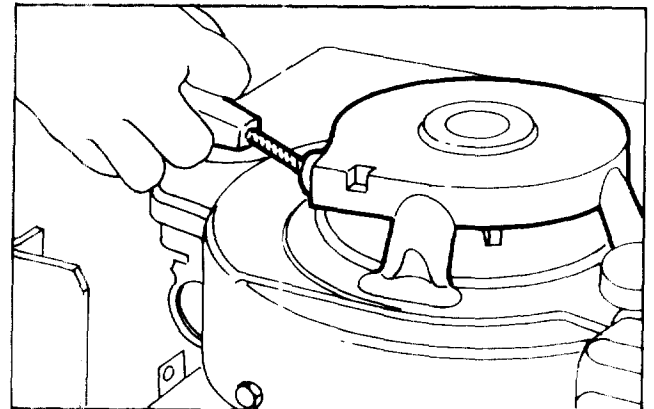

Figure 10
Back Up Recoil Starter (Fig. 10) — Recoil starter must be used in conjunction with ignition switch. After turning ignition key to ON position, pull recoil starter handle to start engine.
2. Move throttle control to CHOKE position, and rotate ignition key to ON. Stand to left side of rider, pull recoil starter handle out until positive engagement results; then pull handle vigorously to start engine (Fig. 10). When the engine starts, immediately move throttle control between FAST and SLOW positions if choke was used for starting. Get onto the rider from the left side and sit on the seat.